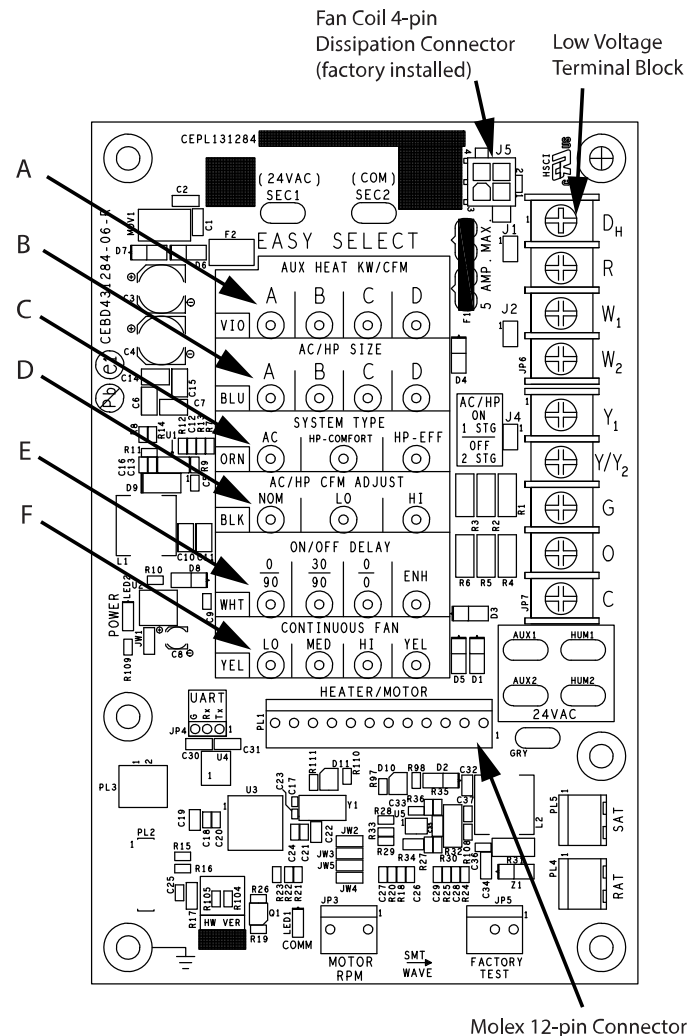
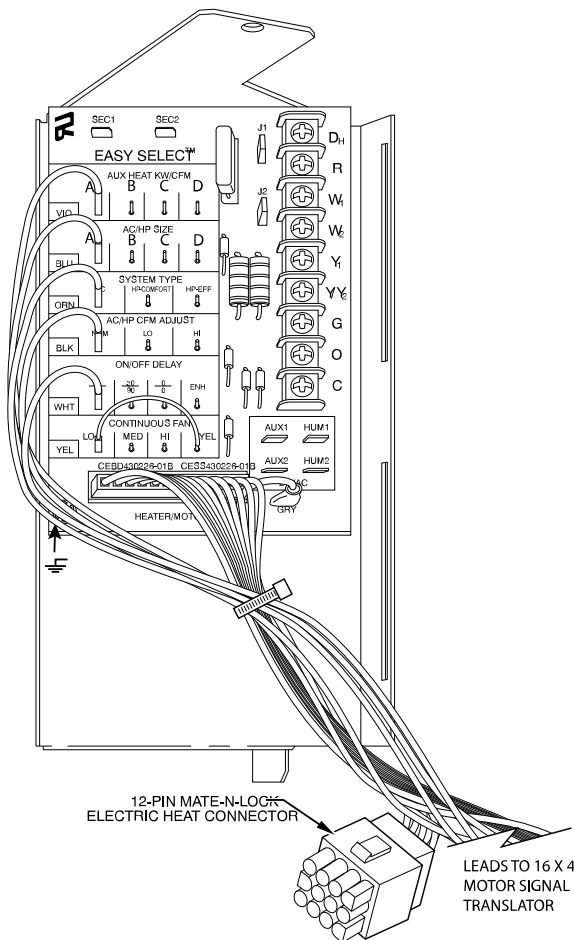

Fig. 20 – Detail of Printed-Circuit Board
Fig. 21 – Connection Detail of Printed-Circuit Board (also showing 12-pin cable), applicable to FT5, FG5
Easy Select taps are used by the installer to configure a system. The ECM motor uses the selected taps to modify its operation to a pre-programmed table of airflows (see Table 8 and Table 10). Airflows are based on system size or mode of operation and those airflows are modified in response to other inputs such as the need for de-humidification (see Fig. 20 and Fig. 21 and Table 6).
Installer must select the auxiliary heat airflow approved for application with kW size heater installed. If no heater is installed, this step can be skipped. Each select pin is marked with a range of heaters for which airflow, also marked, is approved. For increased comfort select the narrowest kW range matching the heater size, for example, 0-10 for 10-kW heater. This airflow must be greater than the minimum CFM for electric heater application with the size system installed for safe and continuous operation (see Table 11 and Table 12 for airflow delivery and minimum CFM). Note that airflow marked is the airflow which will be supplied in emergency heat mode and heating mode on air conditioners when electric heat is the primary heating source. In heat pump heating mode when electric heaters are energized, the ECM motor will run the higher of heat pump heating airflow and electric heater airflow to ensure safe heater operation. The factory selection is the largest heater range approved (see Fig. 20, A as indicated).
The factory setting for air conditioner or heat pump size is the largest unit meant for application with the model of fan coil purchased. Installer needs to select air conditioner or heat pump size to ensure that airflow delivered falls within proper range for the size unit installed. This applies to all operational modes with the exception of electric heat modes (see Fig. 20, B as indicated).
3. HP-EFF - Heat Pump Efficiency provides same airflow for heating and cooling modes to increase overall HP efficiency; approximately 350 CFM per ton. The factory setting is AC. (See Fig. 20, C as indicated.)
To provide airflow at rates described above, the AC/HP ADJUST select is factory set to the nominal (nom) tap. The adjust selections HI/LO will regulate airflow supplied for all operational modes, except non-heat pump heating modes. HI provides 15% airflow over nominal unit size selected and LO provides 10% airflow below nominal unit size selected. Adjust selection options are provided to adjust airflow supplied to meet individual installation needs for such things as noise, comfort, and humidity removal (see Fig. 20, D as indicated).
Four motor operation delay profiles are provided to customize and enhance system operation (see Fig. 20, E as indicated). Selection options are:
3. HI speed - move connector of HI, 100% cooling mode airflow (see Fig. 20, F as indicated).
The following fan coil configuration is recommended for maximum heating and cooling/dehumidifying comfort (see Fig. 20):
7. If the fan coil is installed with Heat Staging capable electric heaters, remove jumper J2 (see Fig. 20).
The AUX and HUM terminals on the Easy Select Board are tied directly to the G terminal, and provide a 24VAC signal whenever the G terminal is energized (see Fig. 20).